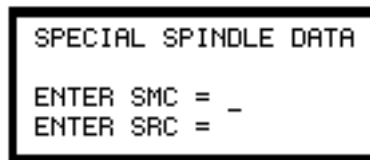

Figure D1
- 3) Press SELECT SPDL and Figure D1 is displayed.